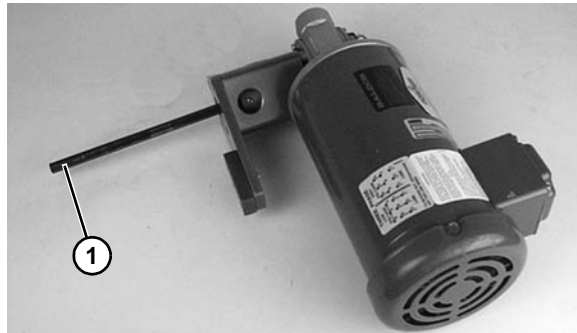

Figure 10
3. Insert hex shaft (**Figure 10, item 1**) into coupling.